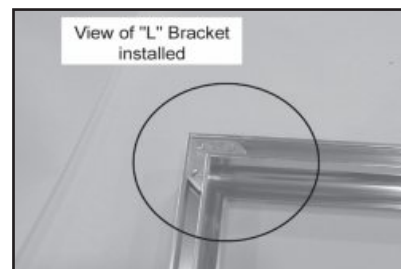

Figure 20.4
2. Assemble the trim with the (2) corner brackets provided. **Figure 20.4**